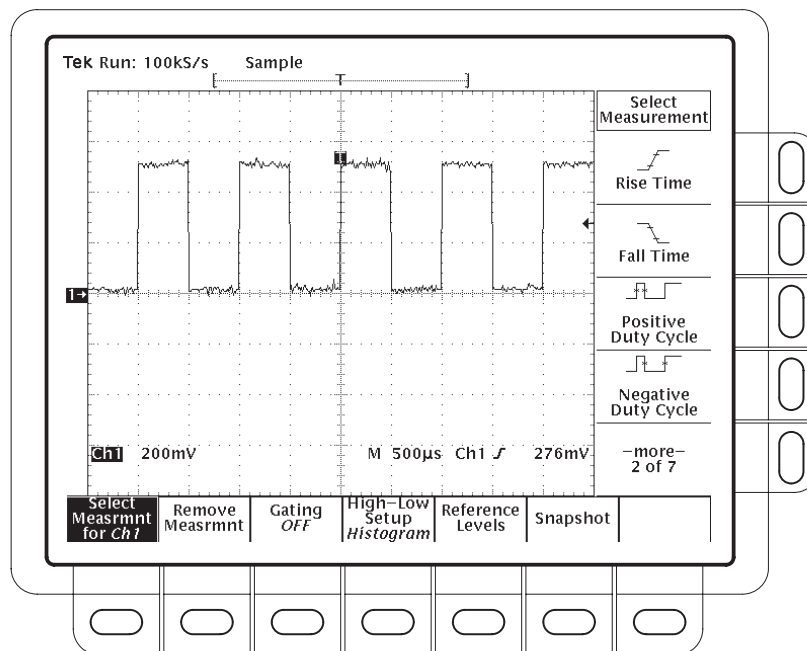

Figure 2-14: Measure Main Menu and Select Measurement Side Menu
4. Press **MEASURE** to display the Measure main menu (see Figure 2-14).